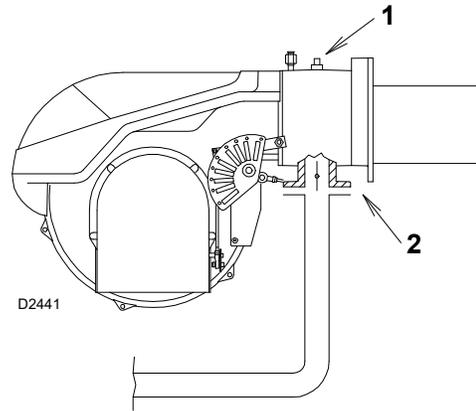

Fig. 22
Δp_1 - Gas pressure is measured at the test point 1)(Fig. 22), with:
Δp_2 - Load loss at gas butterfly valve 2)(Fig. 22) with maximum opening: 90°.
- subtract the combustion chamber pressure from the gas pressure measured at test point 1)(Fig. 22);
- Gas pressure at test point 1)(Fig. 22) = 1 "WC